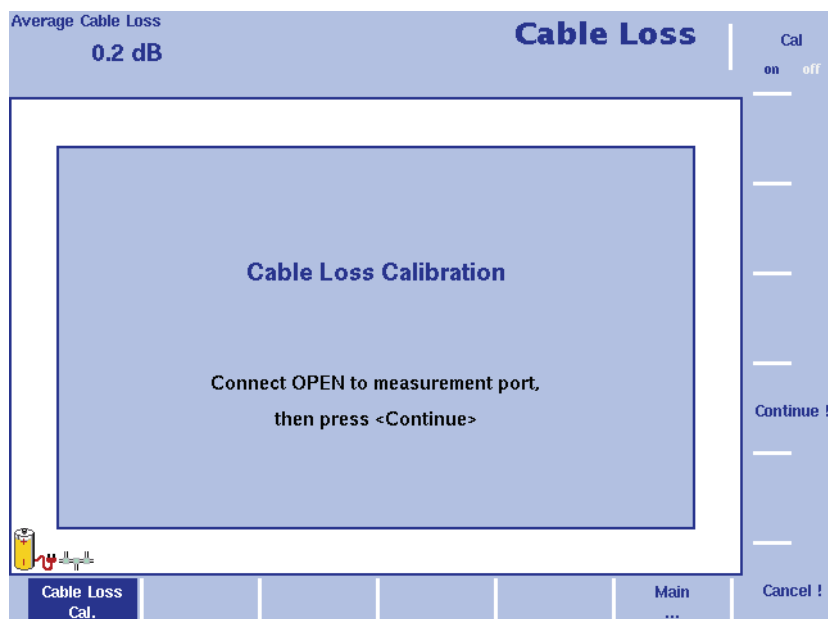

Figure 52 Cable Loss Calibration menu
- 3 The 9103 will guide you through the calibration process by onscreen messages as shown in Figure 52. When prompted as shown connect the calibration set to the test port extension cable and press **Continue**. You can abort the calibration process by pressing the **Cancel !** softkey.